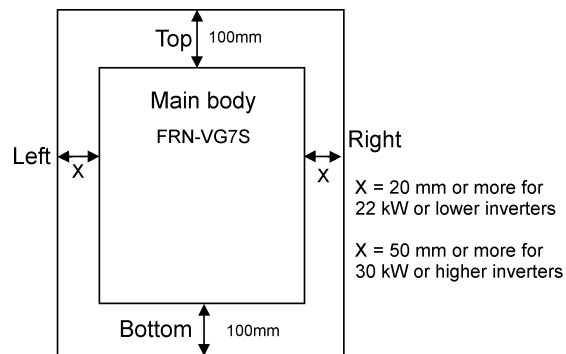

Figure 3-2-1
- (2) The inverter generates heat during operation. Reserve a space as shown in Figure 3-2-1 to ensure a sufficient flow of cooling air. The heat is radiated from the top. Do not install the inverter under any unit susceptible to heat.